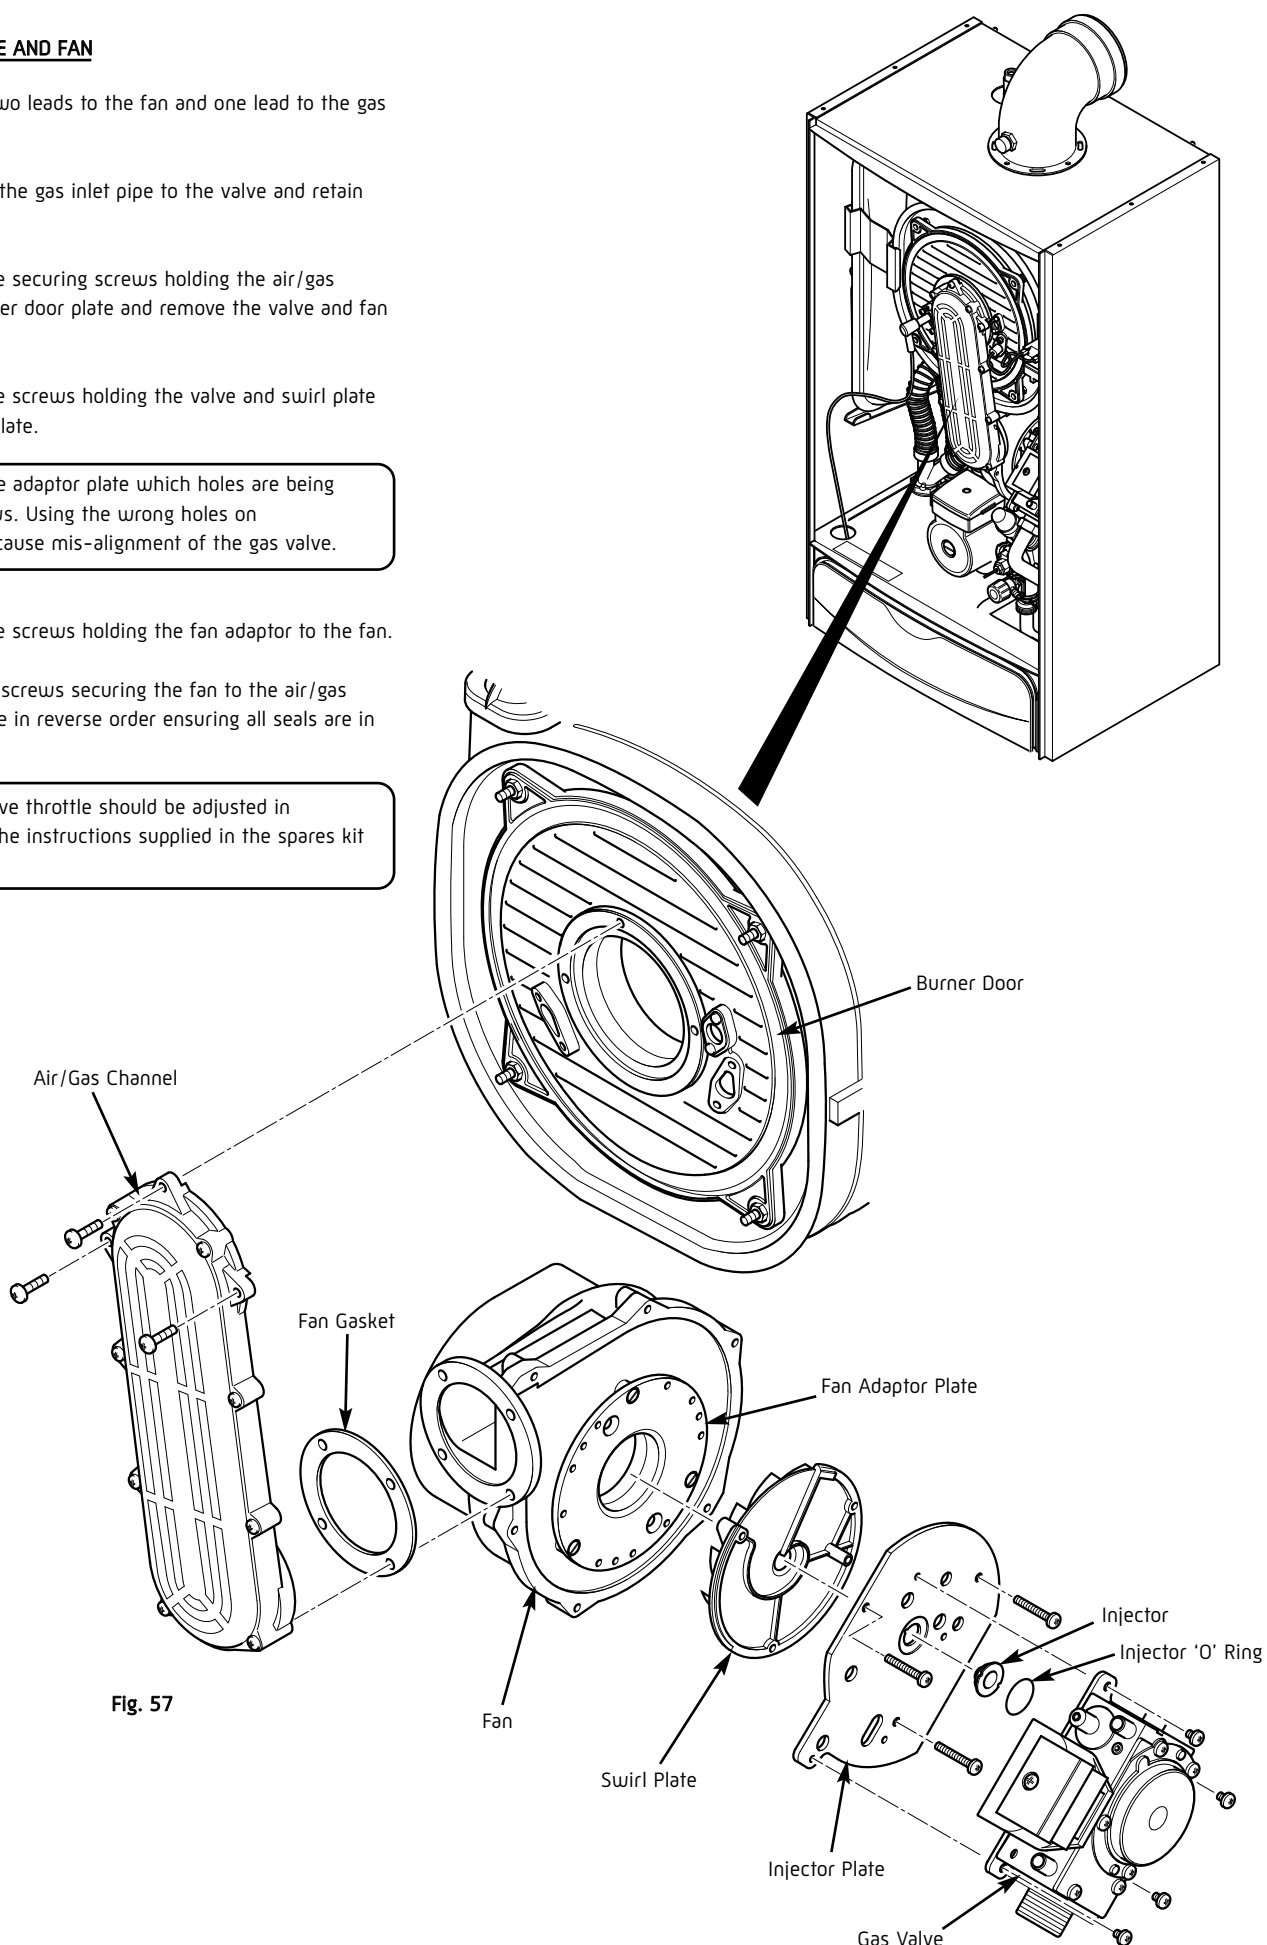

Fig. 57
3. Remove the three securing screws holding the air/gas Channel to the burner door plate and remove the valve and fan assembly (Fig. 57).